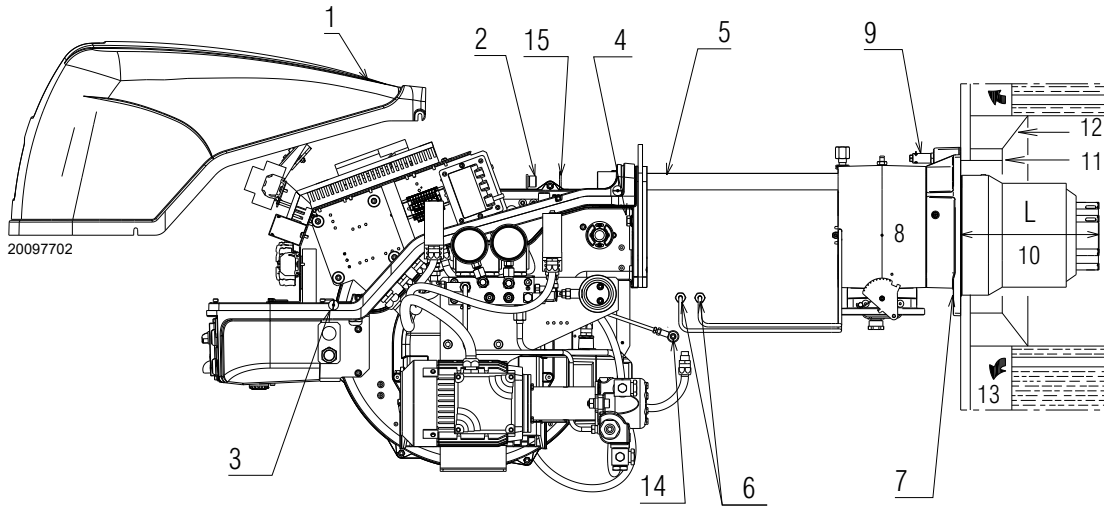
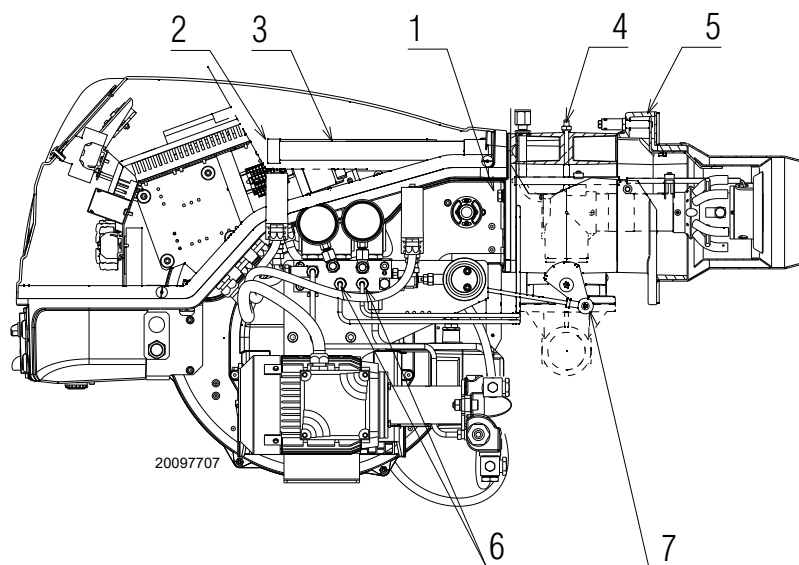

Fig. 11
Fig. 21
This protective insulation must not compromise the extraction of the blast tube. For boilers having a water-cooled front, the insulation 11)-12)(Fig. 11) is not required unless it is required by the boiler manufacturer.
Detach the combustion head from the burner, (Fig. 11):
- Refit the burner to the slide bars 3)(Fig. 21) at approximately 4" from the sleeve 4) - burner positioned as shown in Fig. 11, page 19 - insert the ignition electrode cables;
- slide the burner up to the sleeve so that it is positioned as shown in Fig. 21;
- refit screws 2)(Fig. 21) on slide bars 3) including the safety plate 15)(Fig. 11, page 19);
- connect the oil pipes again by screwing on the two connectors 6)(Fig. 11, page 19);